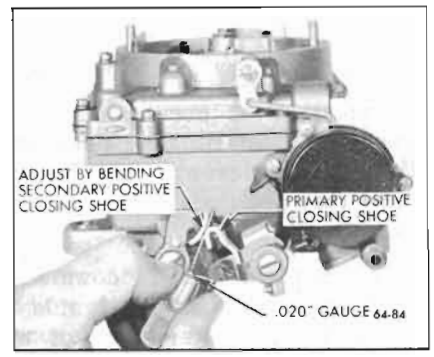

Figure 64-84—Closing Shoe Adjustment
6. Adjust Closing Shoe. Hold choke open and rotate primary throttle lever through full range. Check clearance between positive closing shoes on primary and secondary throttle levers at closest position using .020" gauge. Bend secondary closing shoe as required to obtain this clearance using pliers. See Figure 64-84.